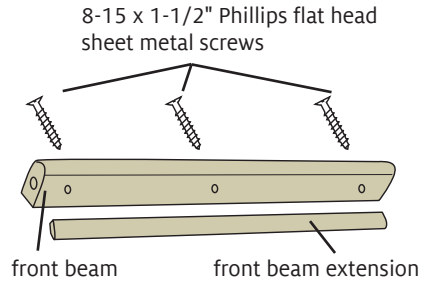

FIGURE 3: ATTACHING FRONT BEAM EXTENSION
- Use three 8-15 x 1-1/2" Phillips flat head sheet metal screws to attach the front beam extension to the outside of the front beam (Figure 3). It helps to lubricate the screws with bar soap or paste wax.